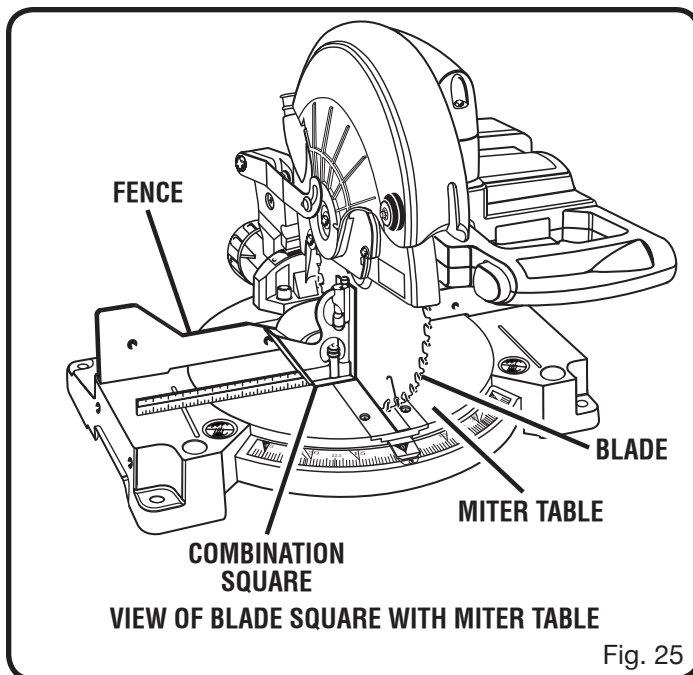

Fig. 25
See Figures 25 - 28.
- The edge of the square and the saw blade should be parallel as shown in figure 25.